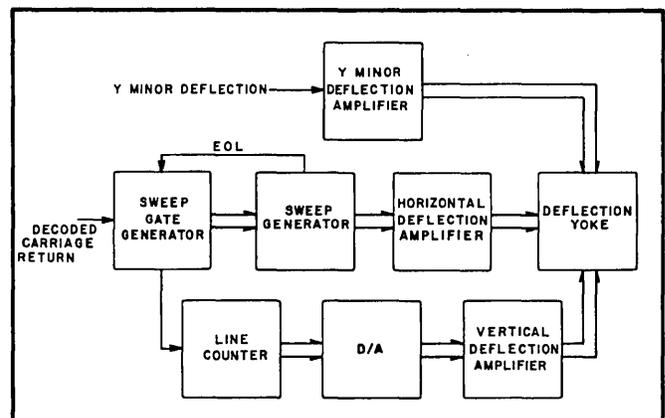

Figure 3-1. Deflection Circuits
3.2 DEFLECTION CIRCUITS (See Figure 3-1)